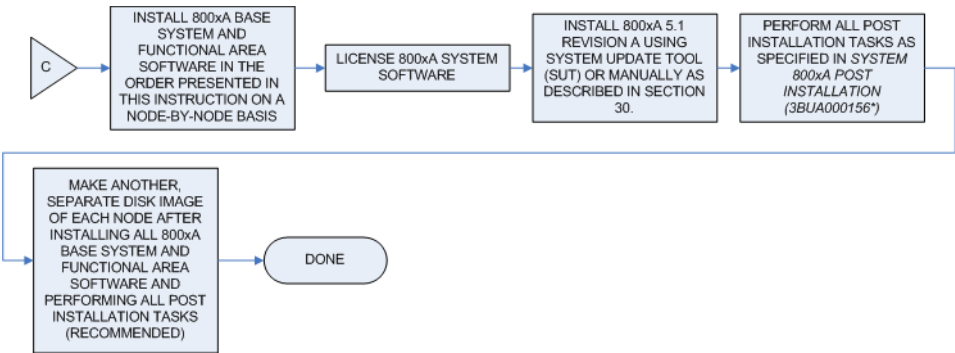

Figure 4. Install 800xA 5.1 Revision A using System Update Tool (SUT) or manually as described in Section 30, Update to 800xA 5.1 Rev A.
- 800xA Base System, Functional Area, and Revision A software installation and post installation (Figure 4).